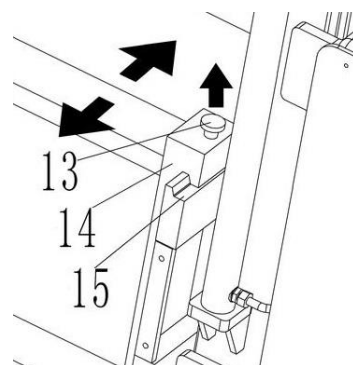

Fig.14: Move the forks
Park the truck securely and switch off the stacker with the key (8) and activate the emergency button (6). Open the battery cover and pull out the hinge, remove the battery cover. Unscrew and remove the battery baffle plate, pull out the battery plug (Fig.14), and take the batteries out with a crane. The installation is in the reverse order of the removal. Please connect the positive terminals firstly. Otherwise the tuck could be damaged.